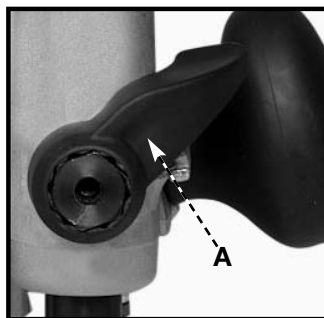

Fig. 10
2. Release the plunge mechanism by pulling the locking lever (A) Fig. 10 down. Lower the plunge mechanism until the router bit touches the work surface. Release the lever and push it to the right to lock the mechanism in this position.
1. Lock the plunge locking lever (A) Fig. 10 by moving it to the operator's right as far as it will go.
2. Push in on the plunge locking lever (A) Fig. 10.
3. Move the plunge locking lever (A) Fig. 10 to the desired location and allow it to spring back into position.